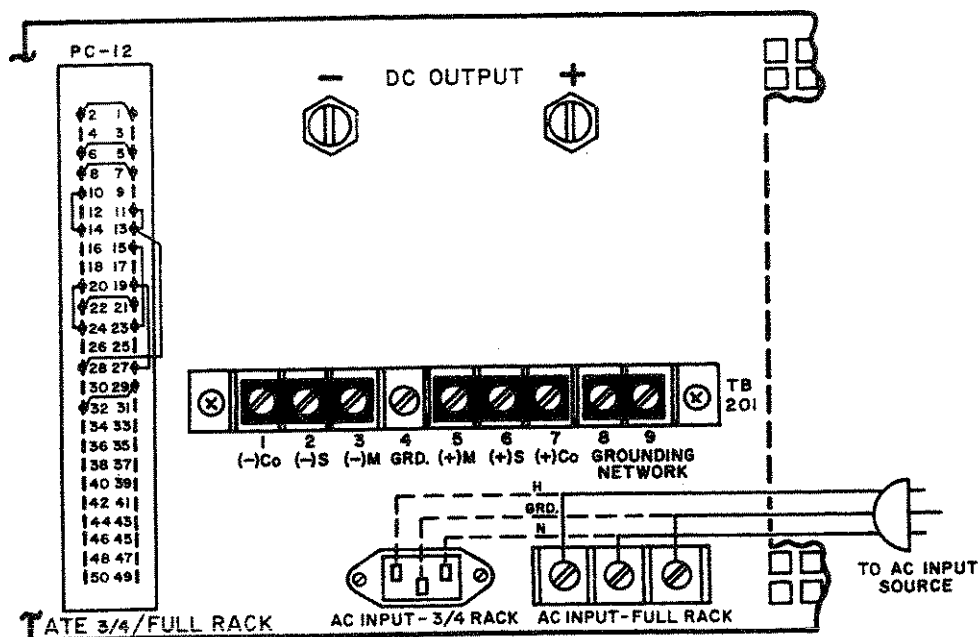

FIG. 3-2 STANDARD JUMPER LINK CONNECTIONS FOR LOCAL (FRONT PANEL) CONTROL OF THE OUTPUT VOLTAGE, OUTPUT CURRENT AND VP CROWBAR LEVEL (SLOW MODE).
- 3-18 (Refer to FIG. 3-2). The Kepco power supply is shipped from the factory with several jumper links, connected to the programming connector (PC-12) and to the barrier strip (TB210). These links may be removed and replaced at will, depending on the operating mode and application of the power supply. Positioned as shown in FIG. 3-2, the links are connected for front panel (local) control of the output voltage, output current and VP crowbar level with the power supply operating in the "slow" mode. **Links remaining on the mating jack must be soldered, links on the barrier strip must be tightened.** LOOSE WIRES OR LINKS AT THE BARRIER STRIP OR THE MATING JACK WILL CAUSE MALFUNCTION OF THE POWER SUPPLY.
Note: Connection diagrams in Section III are applicable for 3/4 rack and for full-rack ATE power supplies. These diagrams represent partial views of the ATE rear panel. The AC source input (socket and line-cord for 3/4 rack ATE models, barrier strip with wired line-cord and cover for full-rack ATE models, as shown in FIG. 3-2) will be deleted on all further diagrams to simplify the presentation.